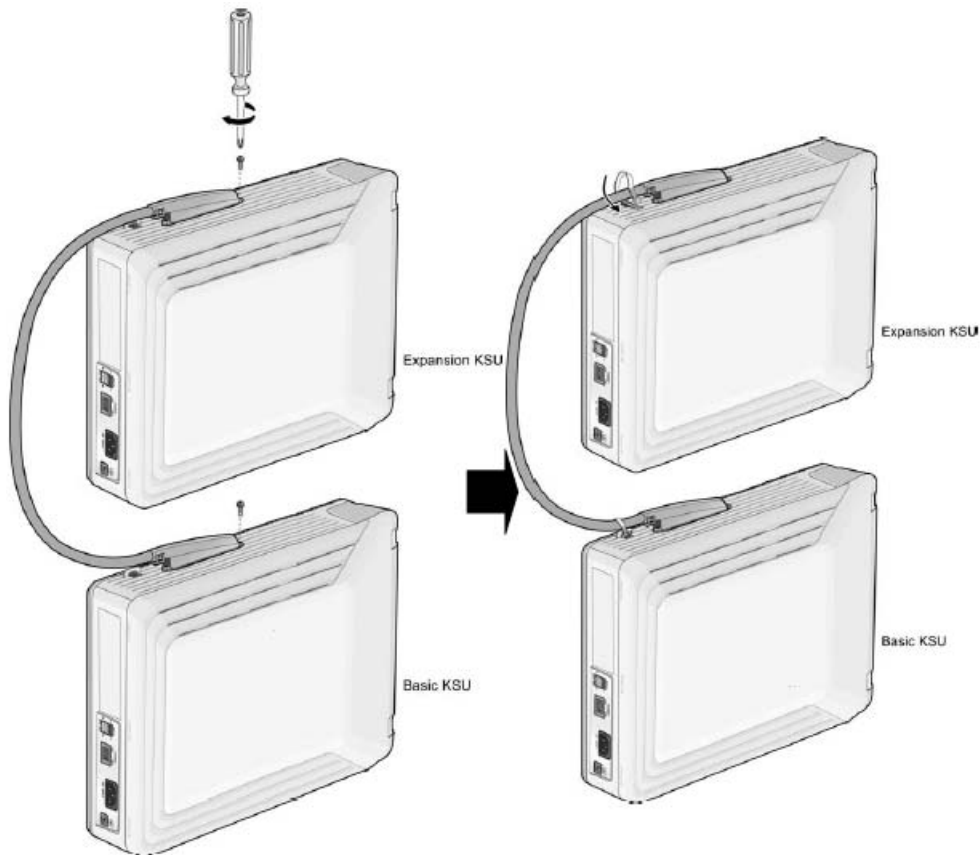

Figure 3-10 EKSU to BKSU Connection
3. To secure the link cable, turn the screw clockwise to tighten, and then tie the link cable with tie cable (as shown in Figure 3-10).